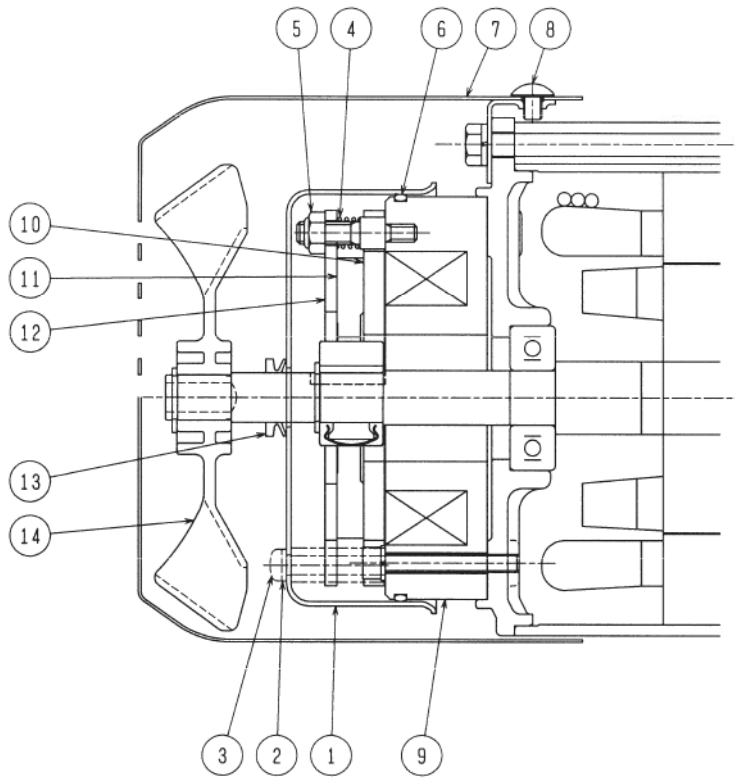

Fig.9
Fig. 9 shows the structure of the brake. The non-excitation braking method (spring-driven braking method) is used for all the models
2) Gap adjustment procedure (Refer to the structural drawing of the brake (Fig.9).